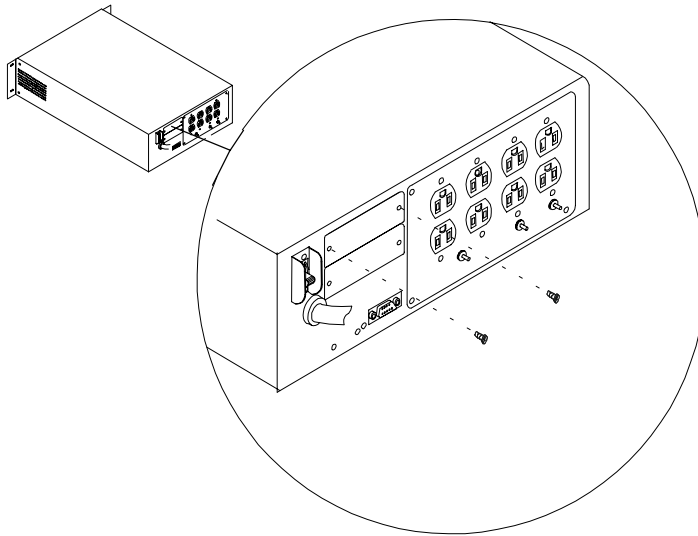

Figure 5-3. Accessory Slot Location
1. Using a #2 Phillips-head screwdriver, remove the two screws securing the top accessory slot cover on the back panel of the UPS. See Figure 5-3. Retain the screws for future use.